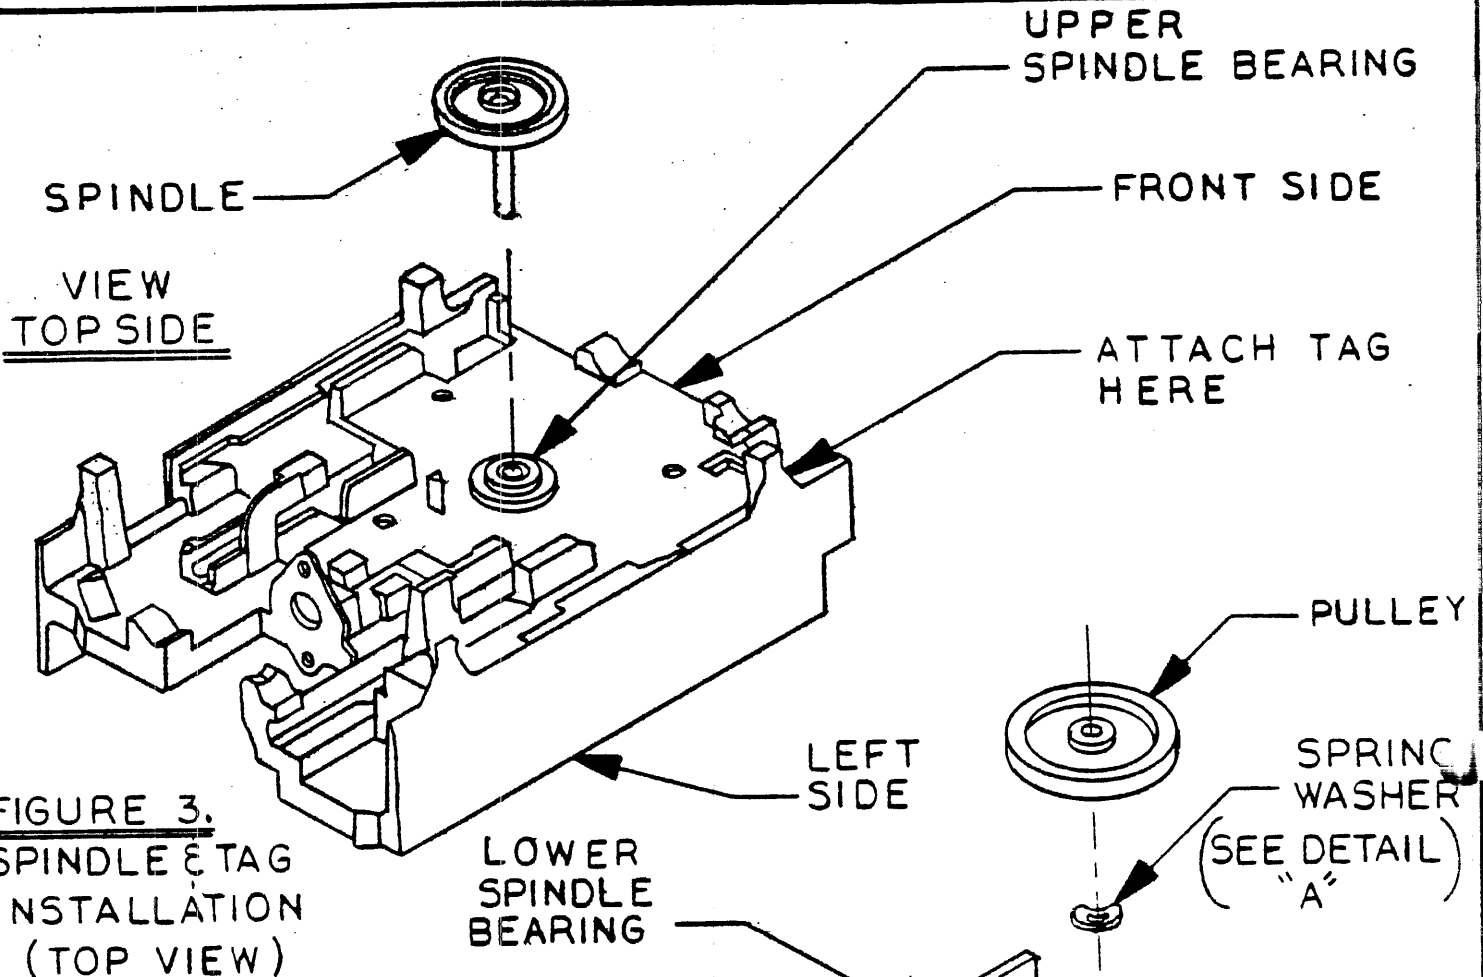

FIGURE 3.
- 7.2.1 Slide a spindle through the upper bearing (See Fig. 3.) until its shaft projects fully out the lower bearing.